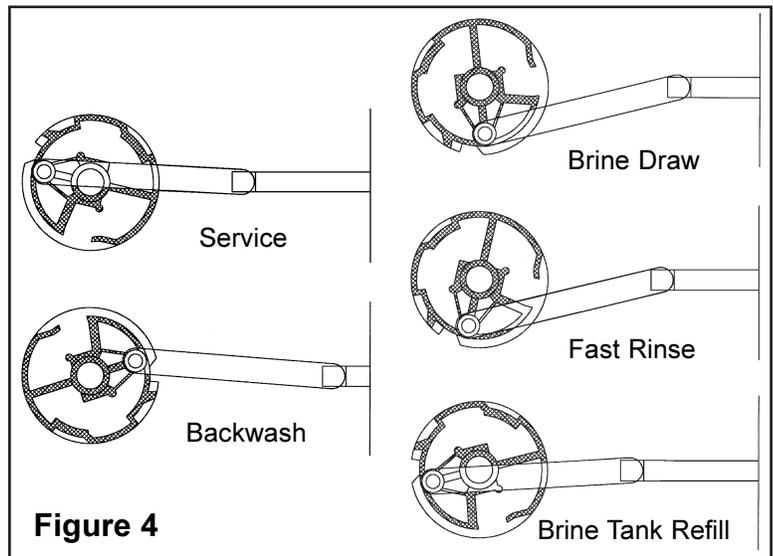
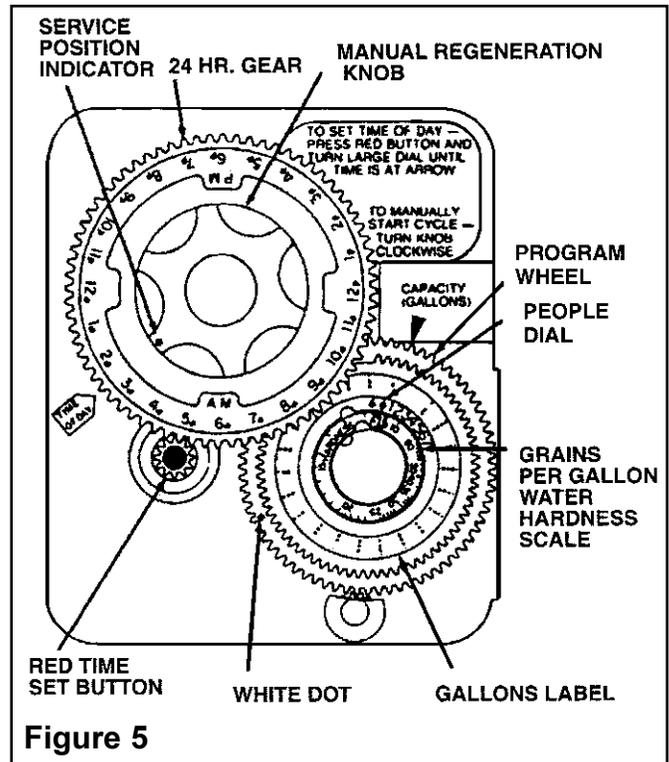

Figure 4
Figure 5
5. Plug the softener in. Manually turn the manual regeneration knob (see figure 5, page 5) to the backwash position. Slowly turn on the water supply to the valve until all the air clears. Allow the water to run to the drain for 2 to 3 minutes or until the water is clear.
6. Optional (Skip to step 8 if disinfection is not desired) - We recommend that all new water softeners be disinfected prior to start up. Disinfection can be achieved by the application of chlorine (household bleach). Manually turn the knob to the start of the BRINE REFILL position. The correct amount of water will be automatically metered through the air check tube in the brine well into the brine tank. Add one (1) teaspoon of chlorine (household bleach) to the brine tank and mix the chlorine and water solution. Turn the knob, advancing the valve to the BRINE/RINSE position. Plug the softener in and the valve will automatically return to the SERVICE position.
7. **2510 Valve Only (FE30MI & STFE30MI)** - Manually turn the Manual Regeneration Knob on the timer slowly through backwash, brine draw, fast rinse to the Brine Tank Refill cycle (see Fig.5, page 5). Once in the Brine Tank Refill cycle, allow valve to fill tank automatically. The correct amount of water is automatically metered into the air check tube in the brine well into the brine tank. The Brine Tank Refill cycle can be located by observing the drain line and watching the movement of the piston gear on the valve (see figure 4). These cycles are as follows: